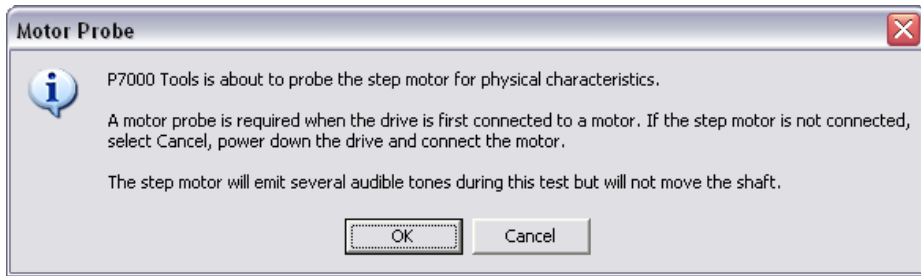

Figure 14. Drive and Motor Initialization
- When the configuration data is downloaded, the drive performs the initialization process with the motor as shown in Figure 14. Click **OK**.